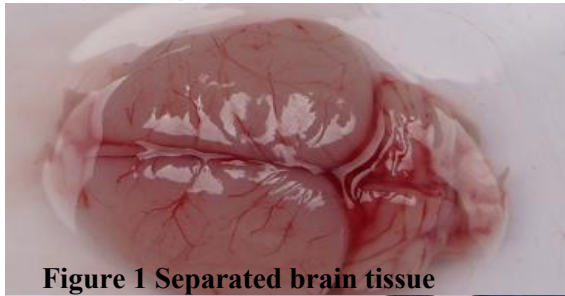

Figure 1 Separated brain tissue
- d. Gently lift the brain tissue with Curved Forceps 3 and transfer it to a culture dish containing 10 mL of Specialized Washing Solution For mouse Brain Microvascular Pericyte Cells (Figure 1). Place the dish on an ice tray/ice box to maintain a low-temperature environment.